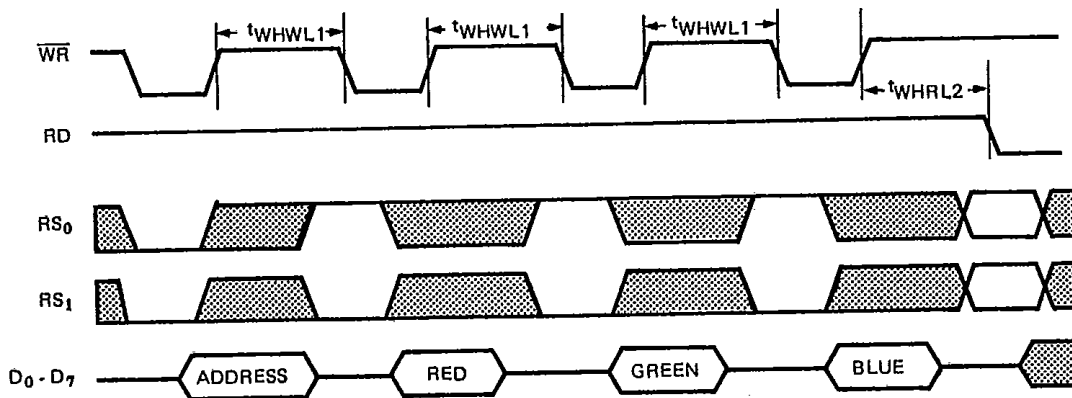

Figure 10. Color Value Write Followed by any Read.
The Pixel Address register is a byte-wide latch that receives and latches address information applied to pins P_0 - P_7 . It can be used in both Read and Write mode depending on the logic state of RS_0 and RS_1 . With $RS_0 = RS_1 = 0$ (register select = 0, 0), the Pixel Address register is in the write mode. Two events normally precede WRITING one or more new color definitions to the color palette. The first is the specification of a color palette address. Second, the Color Value register must be loaded with a color definition. The sequence of data transfer is (1) the desired color palette address - this address is stored in the Pixel Address register and (2) the color definitions: RED, GREEN and lastly, BLUE. Refer to Figures 10 and 11.
Value register for a total of 18 bits. This new color definition is then transferred to the location pointed to by the information stored in the Pixel Address register. As soon as this transfer is completed, the Pixel Address register is auto-incremented. This allows consecutive color palette locations to be updated without the micro-processor specifying each address. All that is necessary is to continue supplying the RED, GREEN and BLUE data for each consecutive address. Refer to Figures 10 and 11.